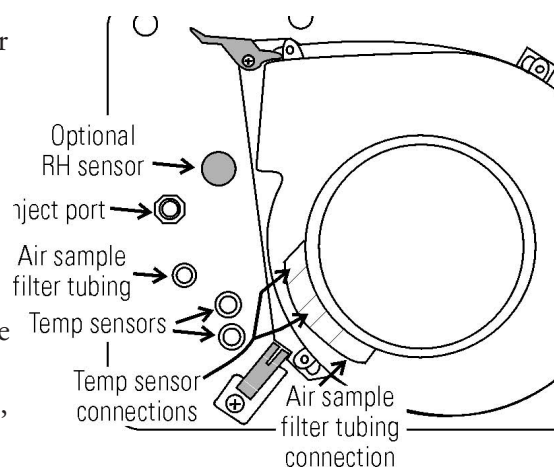

Figure 5-4. Underside View of Chamber Ceiling
15. Carefully pull the temperature sensors and air sample filter tubing down until they can be inserted approximately 1 inch into the appropriate holes in the back of the blower scroll. If applicable, place the optional RH sensor into the corresponding clip on the top duct. See Figure 5-4.